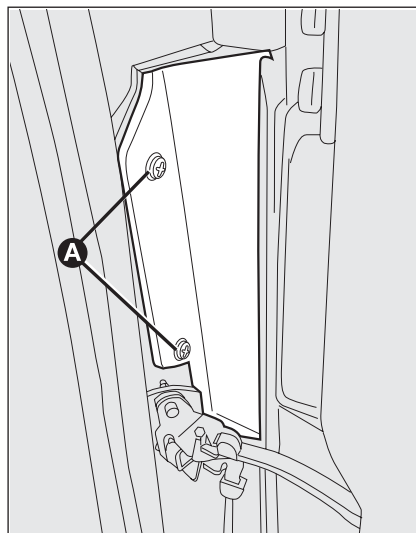
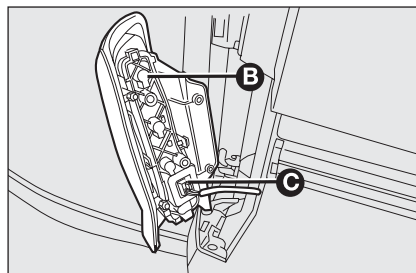

fig. 28
fig. 29
- ☐ remove the screws **A**-fig. 28 to access the light cluster **B**-fig. 29;
- ☐ slide the connector out **C**-fig. 29.